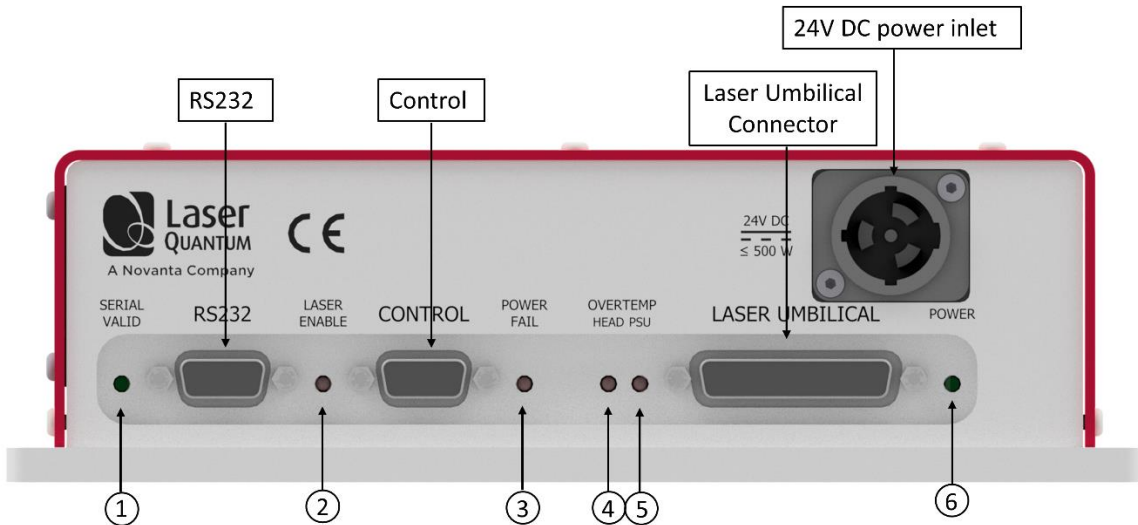

Figure 4-2
- 4 The analogue Control port (see Figure 4.2) is multi-functional as it has connections for Interlock, Enable Switch and Laser Power Control/Modulation. The Interlock must be closed to allow the laser to operate, and this can be achieved using the supplied green-spot Interlock Dongle.
The **MPC6000** can be operated directly via the control port (see Figure 4.2) by applying 0 to 5 V, interlocks and push button in accordance with the diagrams in this section. Alternatively, the supplied dongle (interlock plug) will allow the system to be operated without external interlock connection.